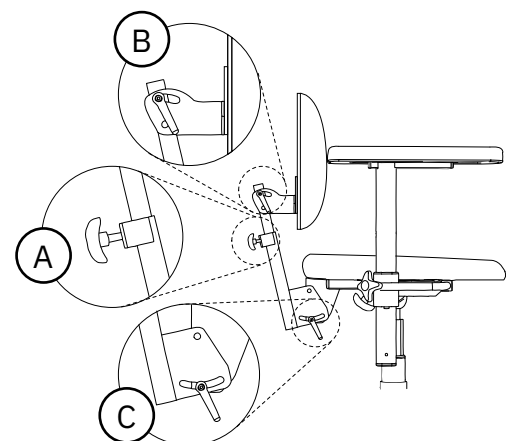

Figure 5.8. Standard backrest mechanism.
Standard can be adjusted in height (A), angle of back rest (B) and angle of back rest mechanism (C), see Figure 5.8.